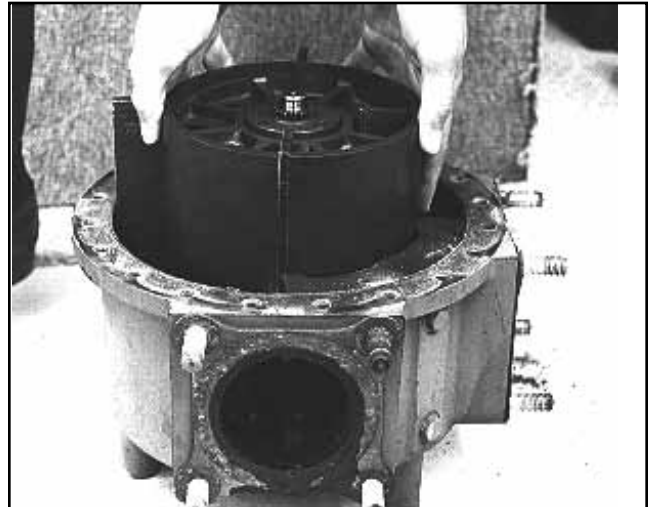

Figure 19
3. Remove rotor assembly, Figure 19, and clean rotor and housing interior.
5. The block, Figure 19, can be separated from the housing by removing the two bolts in the side of the housing.